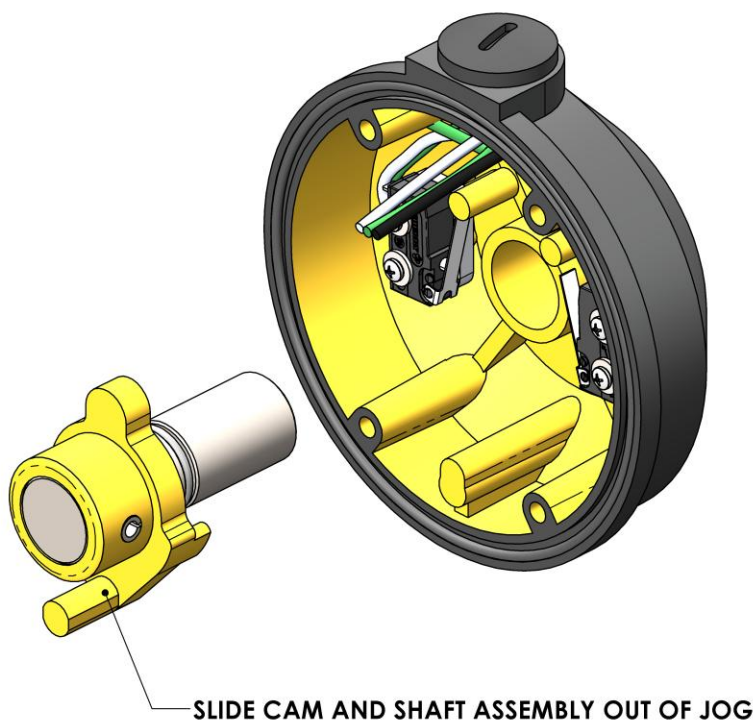

Figure 21: Removing cam assembly from the jog housing
11. Slide the cam and shaft sub-assembly out from the jog unit as shown in Figure 21. Be careful that the microswitch levers do not get pulled and damaged when pulling the cam sub-assembly out of the jog.